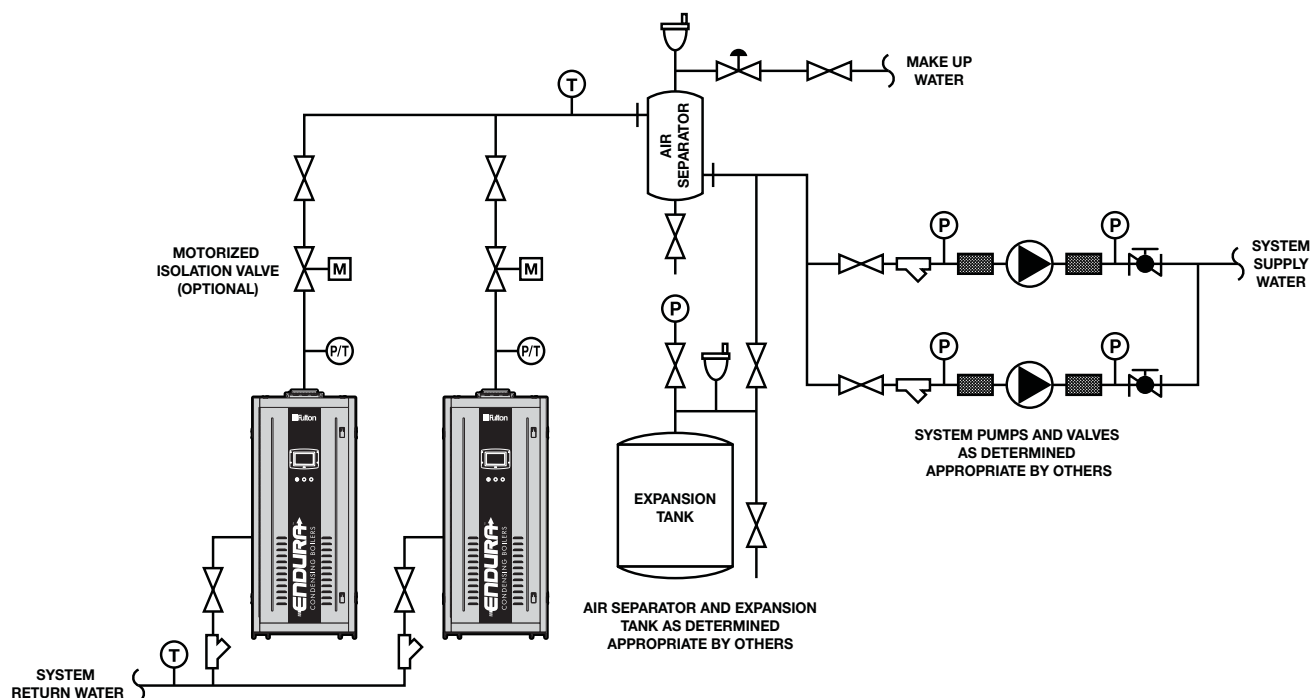

FIGURE 3 - SAMPLE PIPING LAYOUT
Adhere to the following for water piping installation (See Figure 3):
► **NOTE:** *The Fulton Endura boiler does not require a primary/secondary flow piping system. Although primary/secondary is an acceptable configuration, the boiler does not have a minimum return water temperature requirement and the heat exchanger will not be harmed by low flow or zero flow conditions. See Figure 3 for a sample piping layout.*